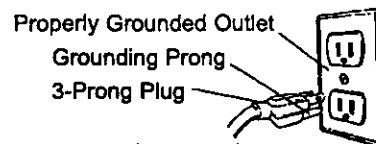

Figure 9 - 3-Prong Receptacle
- This tool is equipped with an approved cord rated at 150V and a 3-prong grounding type plug (see Figure 9) for your protection against shock hazards.
- Grounding plug should be plugged directly into a properly installed and grounded 3-prong grounding-type receptacle, as shown (see Figure 9).